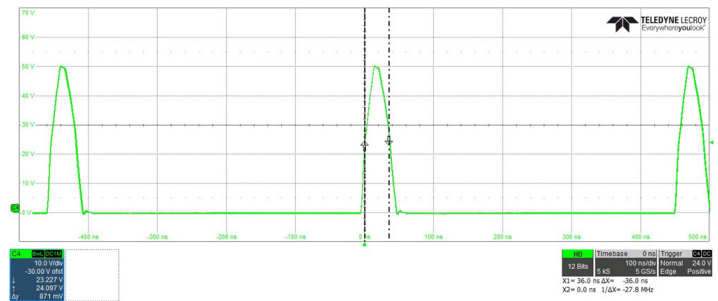

Figure 4: Repeatable, Controlled On-Times of Only 36 ns, 48 V_{IN}, 3.3 V_{OUT}, 2.2 MHz at 400 mA Load
- Repeatable, closed-loop control with on-times of only 36 ns is demonstrated in Figure 4.